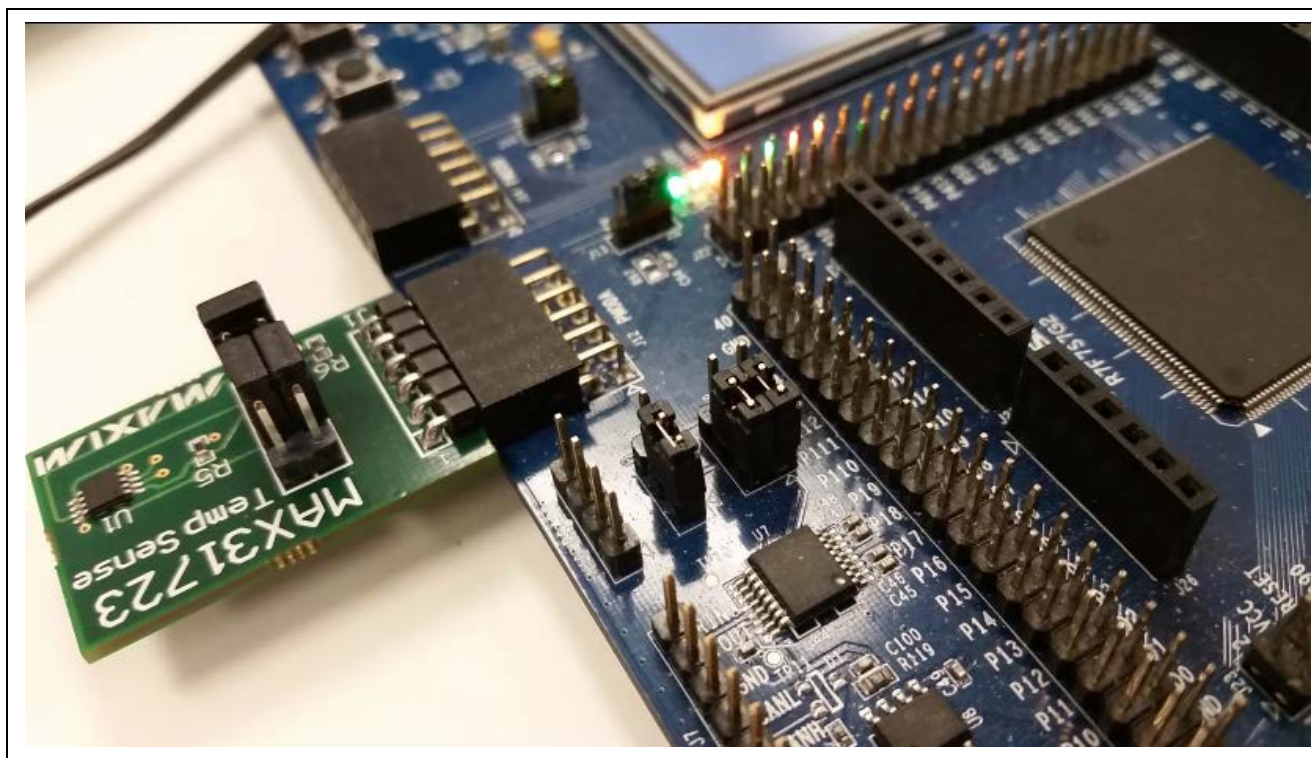

Figure 10. Temperature Sensor Connected to PMODA
1. Connect the temperature sensor as shown in Figure 10.